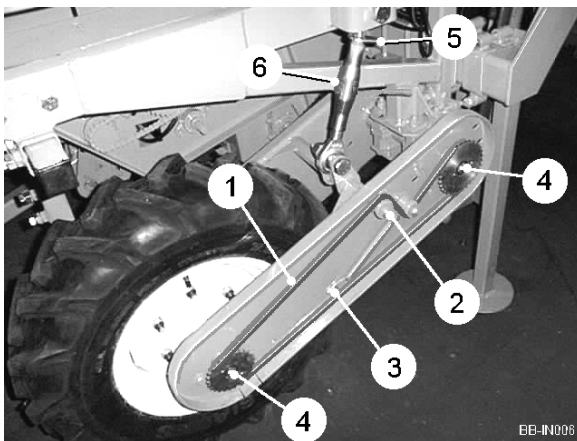
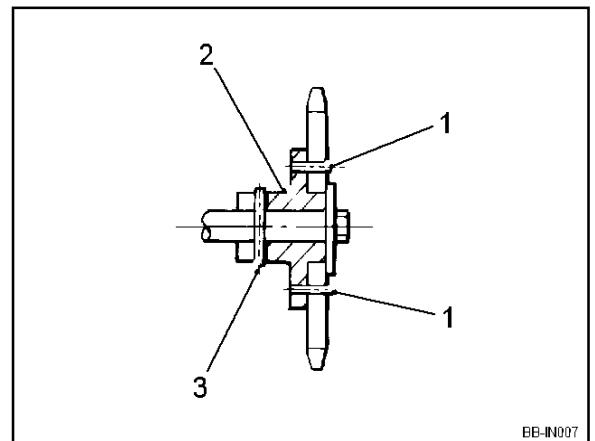

Fig 4
Fig 5
Choose the required seed spacing from the sprocket table decal on the machine and select the sprockets indicated. Remove the drive chain (item 1, figure 4) by rotating the tensioner (item 2, figure 4) to increase slack. If this is difficult, release the tension by loosening the spring anchor (item 3, figure 4). Remove the sprocket retaining bolts (item 4, figure 4) and slide the sprockets from their shafts. Fit the selected sprockets ensuring they locate on the driving pins (item 1, figure 5). When fitting the 16 tooth sprocket, the sprocket boss (item 2, figure 5) is not required. When refitting the sprocket boss, or fitting the 16 tooth sprocket, ensure the drive shaft pin (item 3, figure 5) engages in the boss. Replace the sprocket retaining bolts (item 4, figure 4). Re-fit the drive chain (item 1, figure 4) and adjust the tension by repositioning the spring anchor (item 3, figure 4).
The floating openers are adjustable for depth by raising or lowering the land wheels relative to the planter body. Raising the wheels will allow the opener to dig deeper and conversely lowering the wheels will allow the opener to dig shallower. To adjust the planting depth, loosen the lock plates (item 5, figure 4) and rotate the turnbuckles (item 6, figure 4) to raise or lower the land wheels relative to the planter body. Ensure both sides are adjusted equally. Additional adjustment can be achieved by adjusting the top link between the tractor and the planter although making the openers dig too deep by this method could result in the soil 'bulldozing' in front of the planter.